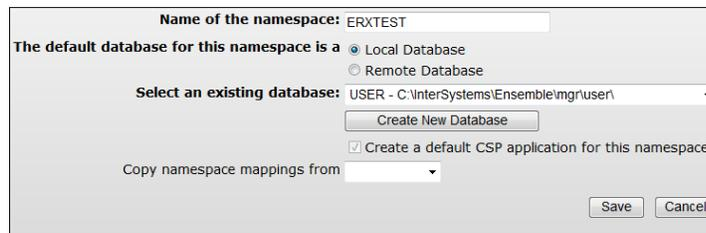

Figure 4-19: Create New Namespace dialog
13. Click **Finish**. The **Create New Namespace** dialog displays (Figure 4-19).